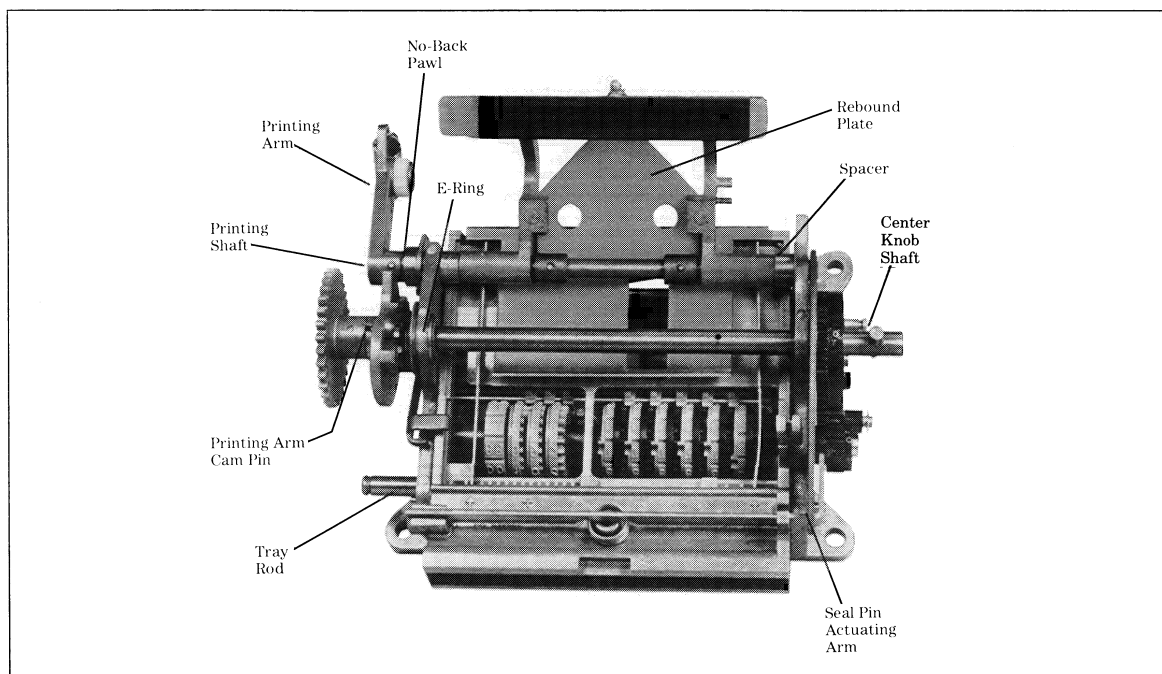

Figure 19. Ticket Tray Parts Identification
A. TICKET TRAY REMOVAL (Figure 19).
D. TICKET TRAY INSTALLATION (Figure 19).